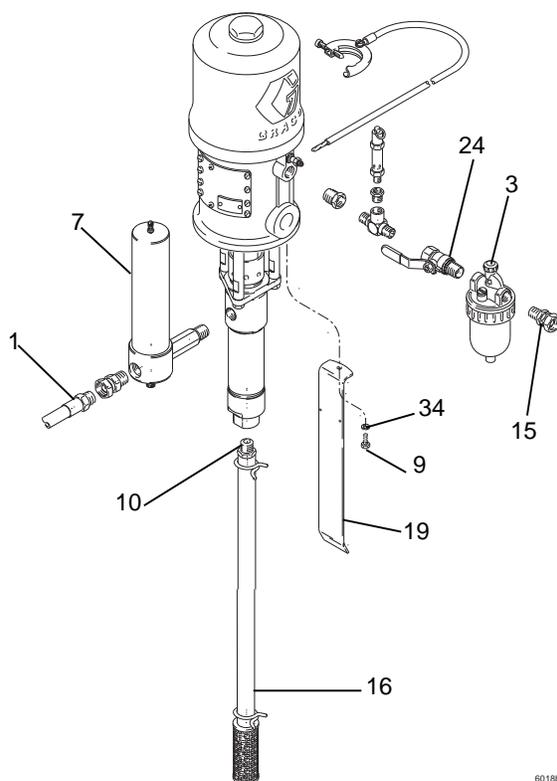

FIG. 2
The typical setup shown in FIG. 2 is only a guide to selecting and installing required and optional components. For assistance in designing a system to suit your needs, contact your Graco distributor. Refer to FIG. 2 for callouts in parentheses.
1. Using Loctite Pipe Sealant, screw the hose stud (10) of the suction hose into the pump's intake housing. See FIG. 2. Remove one of the screws from the pump base opposite the outlet, and assemble the hanging bracket (19) to the pump with the provided screw (9)—use the lockwasher that was on the replaced screw.
2. Using Loctite[®] Pipe Sealant, screw the accumulator (7) inlet adapter into the pump outlet. Connect the fluid hose to the accumulator, the nozzle to the spray valve, and the air line lubricator (3) to the pump air inlet. Hang the pump on your cleaning solution drum.
3. Close the air ball valve (24), then connect your 1/2 ID (min) air supply hose to the 1/2 nptm(f) inlet union (15)—do not use thread sealer. Install an accessory air filter and water separator to remove excessive moisture that could cause air motor icing. Pour high quality SAE 10 into the lubricator until oil reaches the level mark on the sight glass.
See FIG. 2. Open the main air supply valve, hold the spray valve open and slowly open the air petcock until the pump is running slowly. After solution is coming from the spray nozzle, open the ball valve (24) all the way and adjust the air line lubricator (3) to deliver about one drop per minute. Refer to the separate lubricator instruction manual.
See FIG. 2. Check the air line lubricator often and keep it filled with oil. Also check the pump packing nut regularly to keep it just tight enough to stop leakage, but no tighter. Use a 1/4 in. (6.3 mm) diameter rod to tighten.